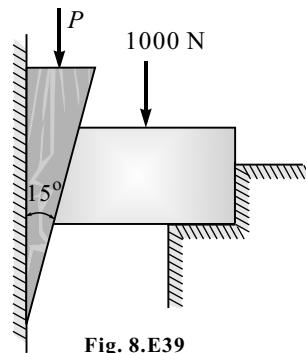

Fig. 8.E39
40. A ladder of length 4 m weighing 200 N is placed against a vertical wall, as shown in Fig. 8.E40. The coefficient of friction between the wall and the ladder is 0.2 and that between the ladder and the floor is 0.3. The ladder in addition to its own weight has to support a man weighing 600 N at a distance of 3 m from A. Calculate the minimum horizontal force to be applied at A to prevent slipping.